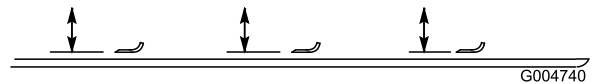

Figure 128
2. Rotate the blade until the ends face forward and backward and measure from the inside of the mower deck to the cutting edge at the front of the blade (Figure 128).